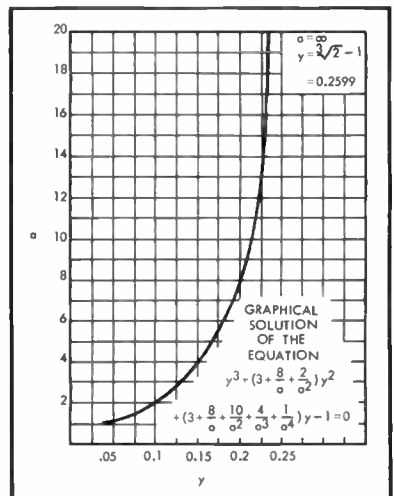

Fig. 4. Graph of y as a function of a .
For each value of the multiplier a (which is a pure numeric) there is one positive root y which always satisfies $0 < y < 0.26$. Equation (34) may be solved graphically or by the use of the method of Horner, or Newton. Possibly the simplest procedure is to guess the value of y for a specified value of a , and verify the accuracy of the guess by substituting the values back in Eq. (34). A desk calculating machine is useful in carrying out this work. To insure an "intelligent guess," the writer has prepared a plot of y as a function of a . This graph is shown in Fig. 4.
- (1). Choose the value of a . A reasonable range is $1 \leq a \leq 10$.
- (2). Accurately determine y for the selected value of a , using Eq. (34), beginning with the y vs. a plot given in Fig. 4.
- (3). Arbitrarily select the values of R_1 and R_4 , keeping in mind "rule" (c), set forth at the beginning of this paper.